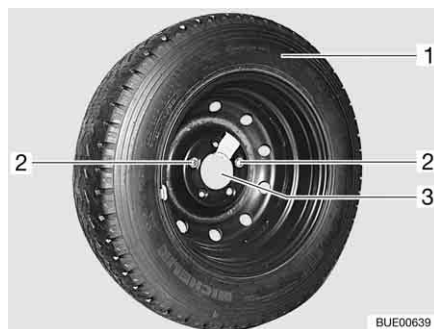

Fig. 281 Spare wheel support in the rear garage
- Loosen and remove both fixing screws (Fig. 281,2) with the on-board tool set.
- Remove the spare wheel (Fig. 281,1) from the support (Fig. 281,3).